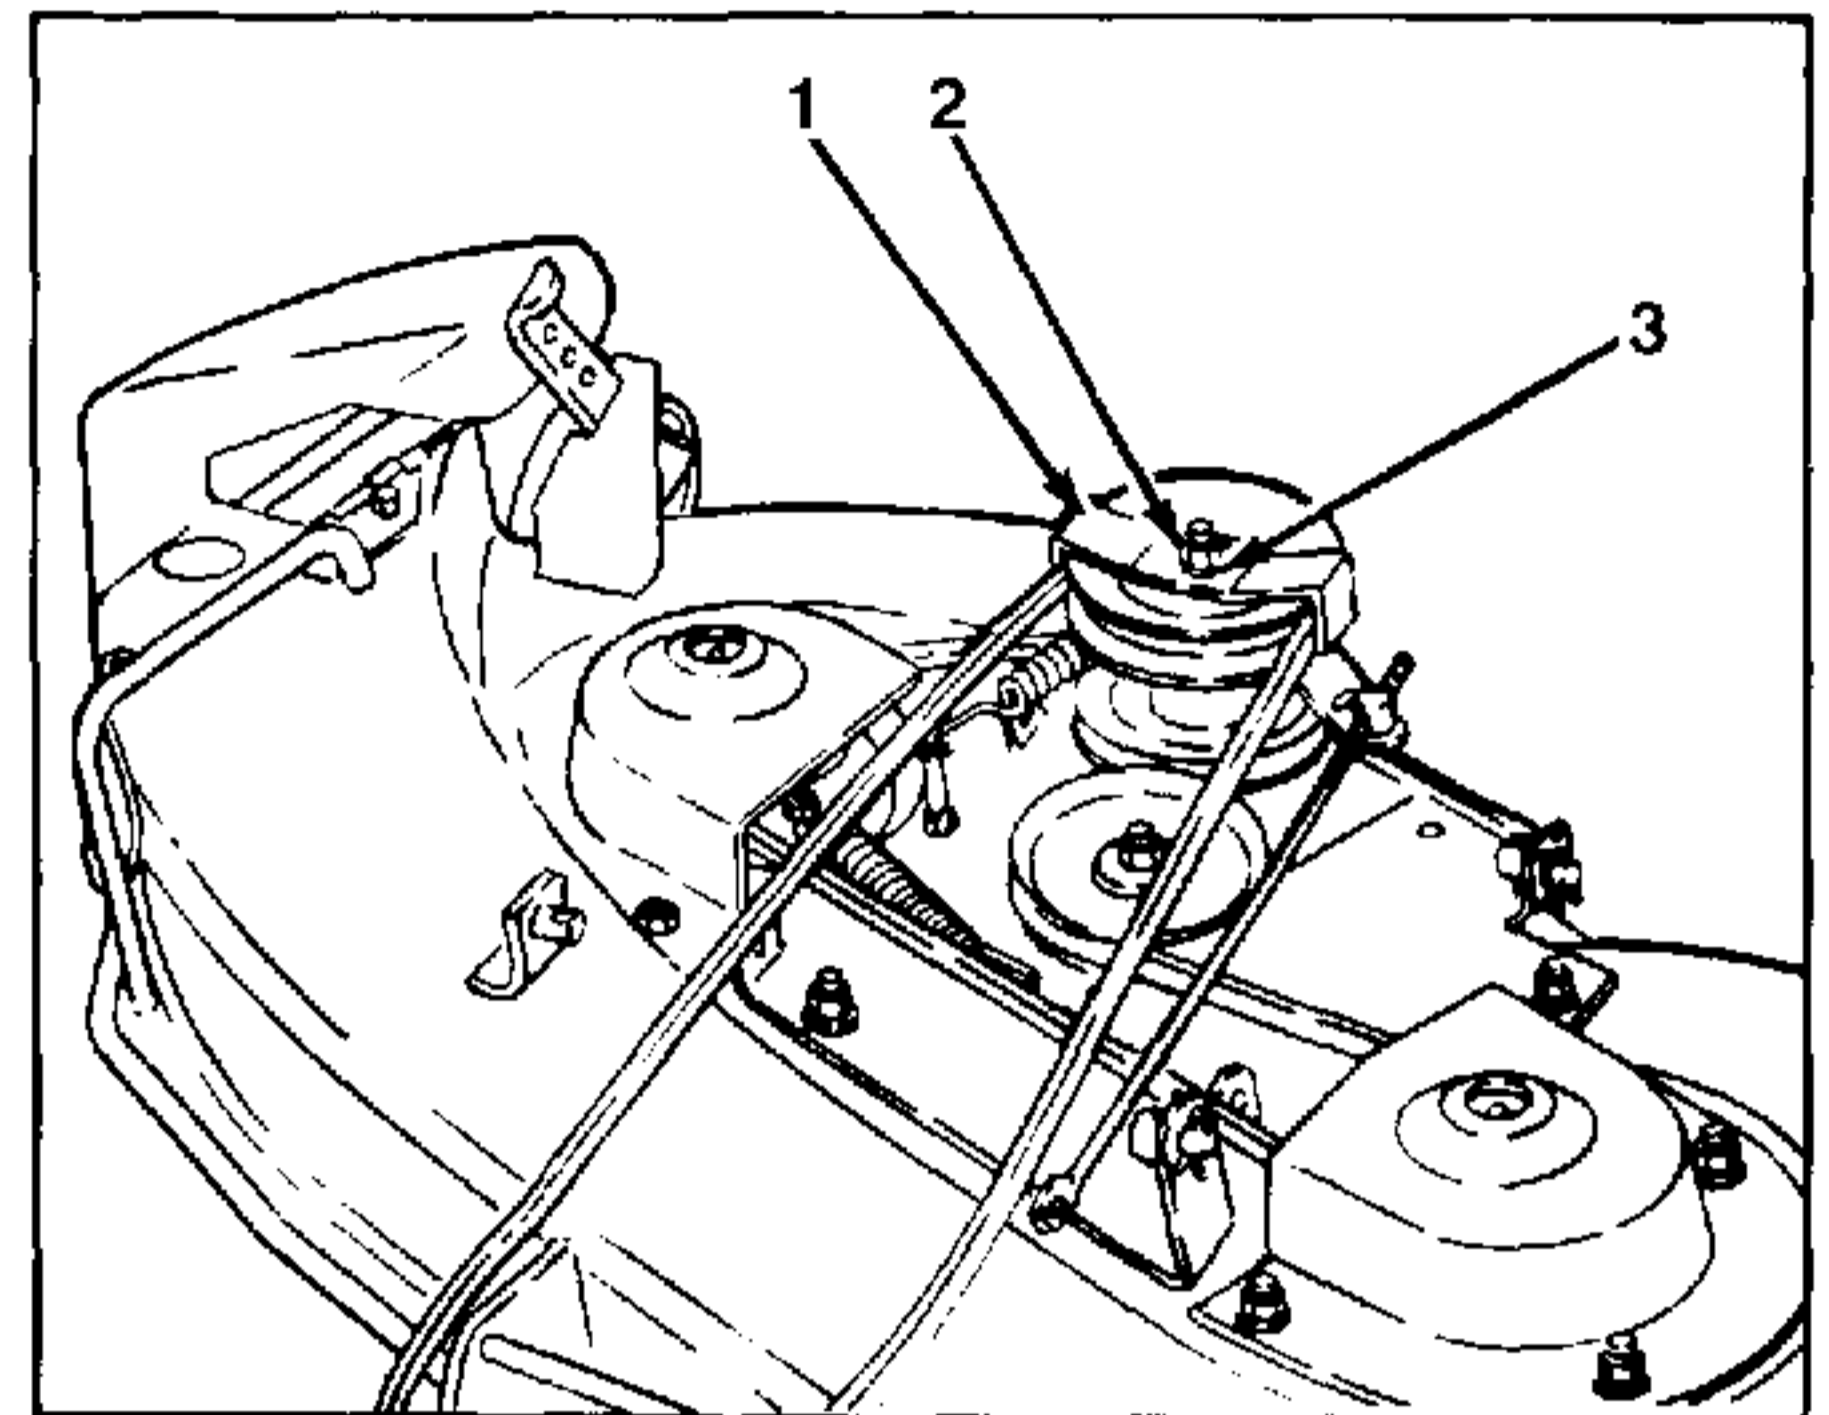

FIGURE 26.
1. Refer to figure 26 and carefully note the relative position of the double drive pulley belt guard to the double drive pulley.